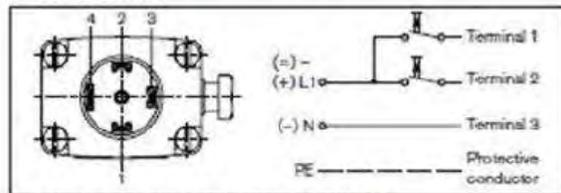

Fig. 4: Electrical connection - pulse model (CF 02)
- Connect as shown in **Fig. 4**. Pulse on terminal 1 closes the valve; pulse on terminal 2 opens the valve.